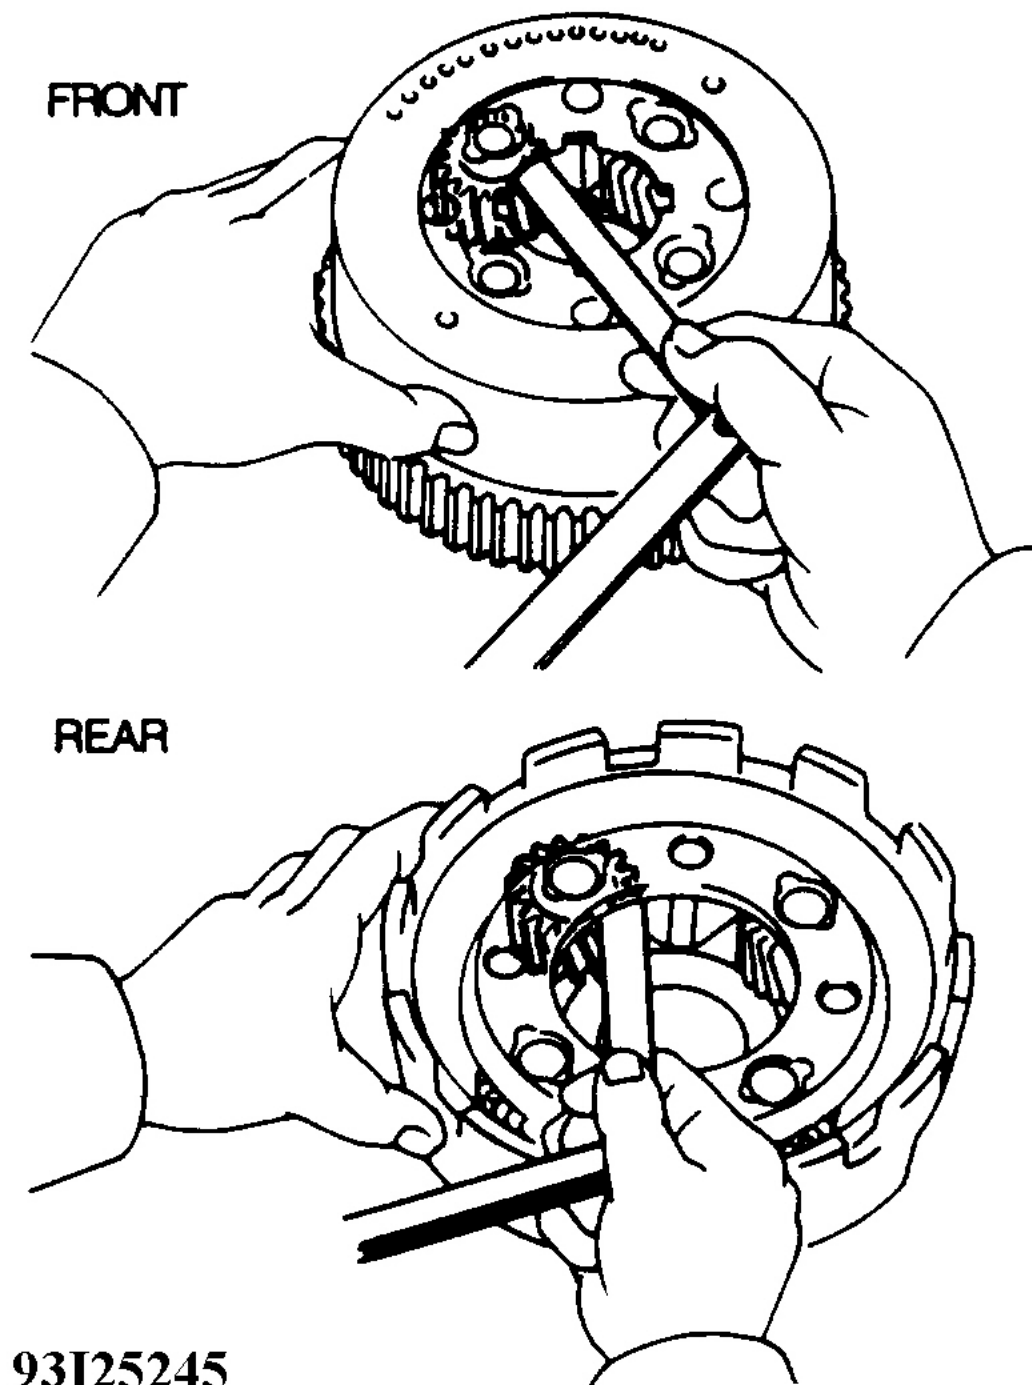

Fig. 32: Measuring Planetary Pinion Gear Thrust Clearance
2. Inspect planetary pinion gear thrust clearance. Measure thrust clearance between pinions and carrier. See **Fig. 32** . Standard clearance should be .008-.020" (.20-.50 mm). Maximum clearance is .030" (.75 mm). If thrust clearance is excessive, replace planetary gear.